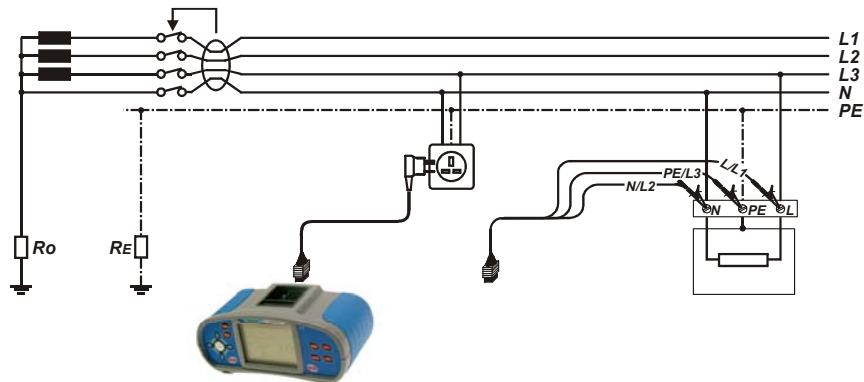

Figure 5.30: Connecting the plug cable and the universal test cable
- Connect** test leads to the tested object (see *figure 5.30*).
- Connect** test leads to the tested object (see figure 5.30).
<ul style="list-style-type: none"> <li>❑ Select the RCD function.</li> <li>❑ Set sub-function AUTO.</li> <li>❑ Set test parameters (if necessary).</li> <li>❑ Connect test cable to the instrument.</li> <li>❑ Connect test leads to the tested object (see figure 5.30).</li> <li>❑ Press the TEST key.</li> </ul>	Start of test